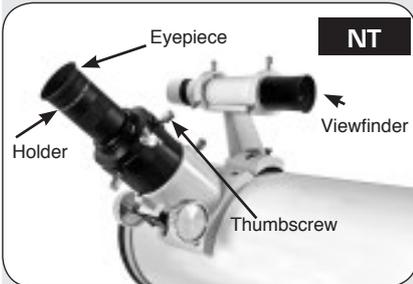
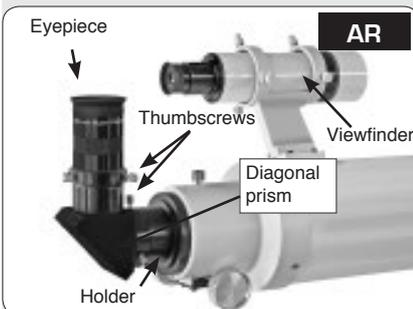

Fig. 10a: Insert eyepiece into holder and tighten thumbscrews.
Fig. 10b: Insert eyepiece into diagonal prism and tighten thumbscrews.
10. Insert the eyepiece: NT models (Fig. 10a): Lift to remove the dust cap from the eyepiece holder on the focuser assembly. Set the dust cap aside in a safe place and replace it when you have finished observing to protect the eyepiece assembly. Back off the eyepiece thumbscrews (1, Fig. 1a) and insert the supplied 25mm eyepiece (3, Fig. 1a) into the eyepiece holder. Tighten the holder thumbscrews to a firm feel to secure the eyepiece. AR models (Abb. 10b): Lift to remove the dust cap from the eyepiece holder on the focuser assembly. Set the dust cap aside in a safe place and replace it when you have finished observing to protect the eyepiece assembly. Back off the eyepiece thumbscrews (1, Fig. 1b) and slide the diagonal prism into the holder and tighten the thumbscrews to a firm feel only. Insert the supplied 25mm eyepiece (3, Fig. 1b) into the the diagonal prism. Tighten the prism's thumbscrews to a firm feel to secure the eyepiece.